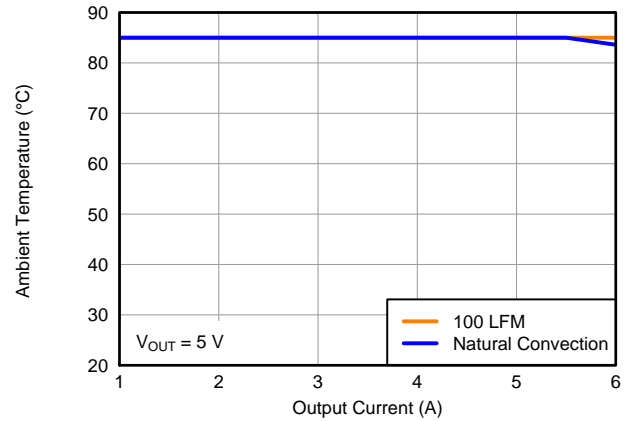
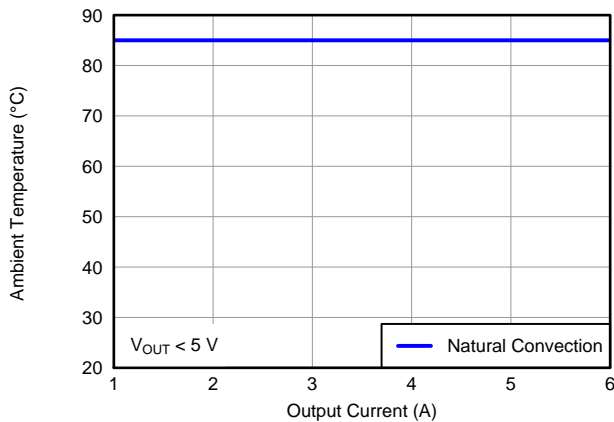

Figure 15. Safe Operating Area
Figure 16. Safe Operating Area
- (2) The temperature derating curves represent the conditions at which internal components are at or below the manufacturer's maximum operating temperatures. Derating limits apply to devices soldered directly to a 100 mm × 100 mm double-sided PCB with 1 oz. copper. Applies to Figure 15 and Figure 16.